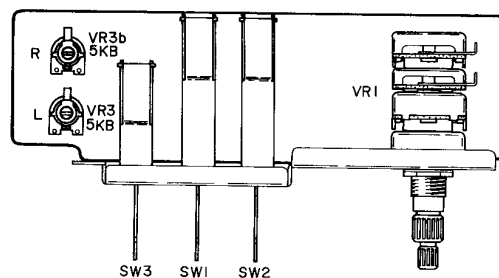

Fig. 7 Volume P.C Board M2-5619
- Adjust VR-3a,b so that level-meter indicates 3 watts. (Refer to Fig. 7)